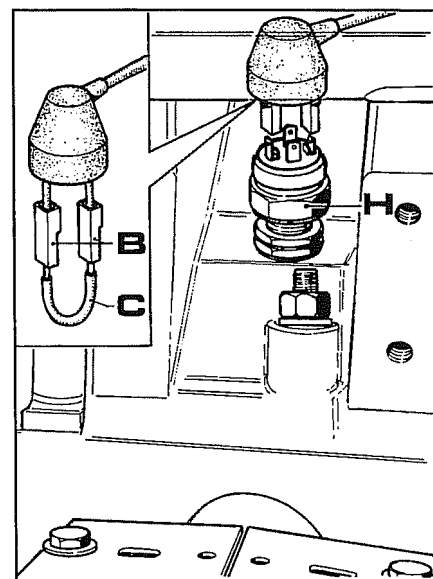

Fig. 8
4. Disconnect wires **B** Fig.8 from switch **H** and then connect them with a jumper (**C** Fig.8). This way, if the power supply reaches the solenoid, it means that the limit switch must be changed.